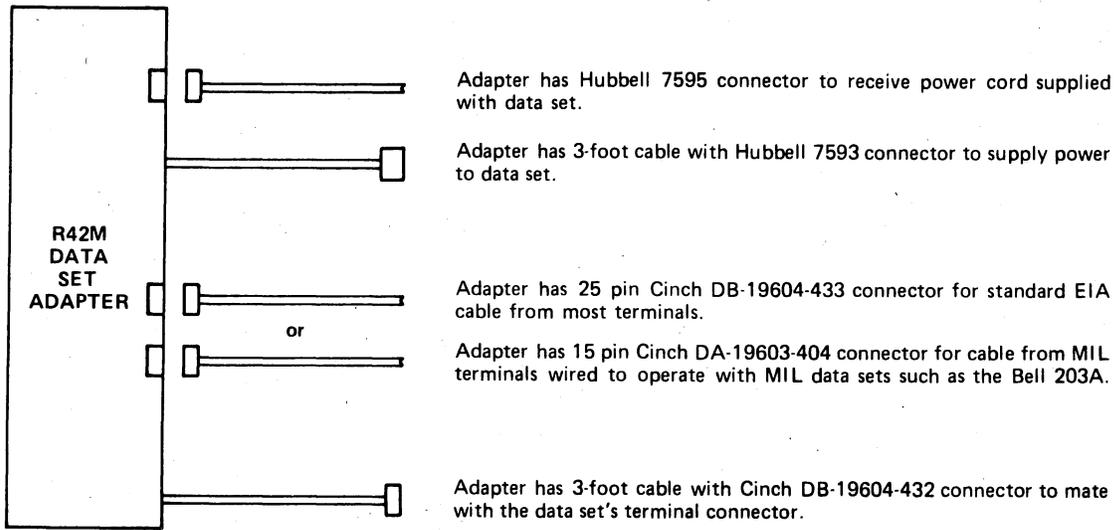
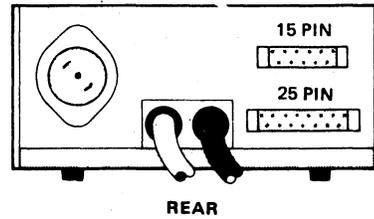

Figure 2
Figure 3
(4) Disconnect power cord connector from the Data Set.
(5) Connect the Data Set power cord into the Hubbell connector socket on the rear of the R42M unit.
(6) Connect the Hubbell connector on the end of the 3 foot cable into the power socket of the Data Set. (See Note for installation involving Bell 209 Data Sets.)
(7) Connect the 25 pin connector on the end of the 3 foot cable into the customer interface connector on the Data Set.
(8) Connector customer's 25 pin and/or 15 pin interface connectors, as required, into the appropriate connector on the rear of R42M unit. (See Figure 2 and Figure 3).